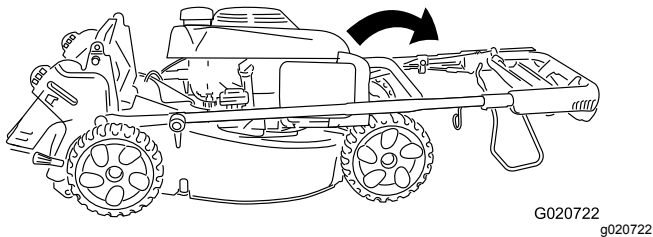

Figure 19
2. Rotate the entire handle forward (Figure 19).